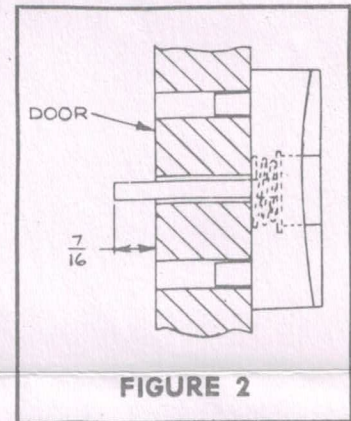

FIGURE 2
**STEP NO. 3**—Without depressing button, spindle must project through door approximately  $\frac{7}{16}$ ". If too long, saw or break off to length specified above. See Fig. 2.